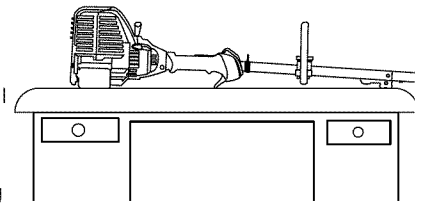

Fig. 18
2. Place the engine on a flat, level surface with the cutting head shield hanging off a work bench or table to get a proper oil level reading (Fig. 18).